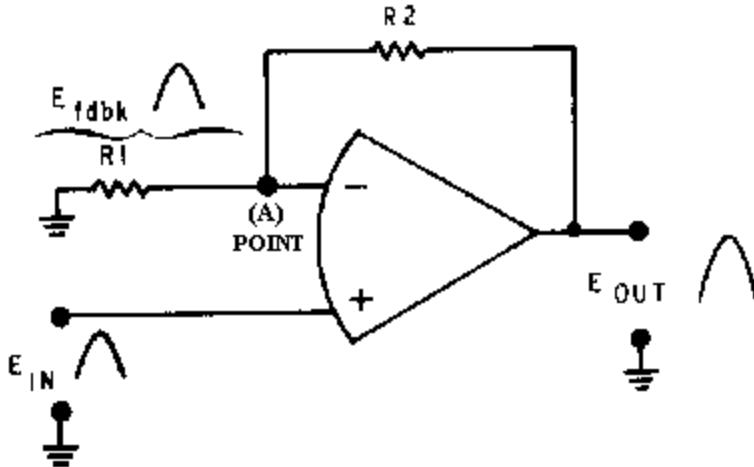

Figure 3-16.—Noninverting configuration.
Figure 3-16 shows a noninverting configuration using an operational amplifier. The input signal ( $E_{in}$ ) is applied directly to the noninverting (+) input of the operational amplifier. Feedback is provided by
*Q-26. In a circuit such as that shown in figure 3-16, if R1 has a value of 50 ohms and R2 has a value of 250 ohms and the input signal has a value of +10 millivolts, what is the value of the output signal?*